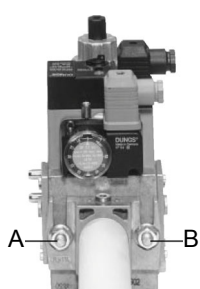
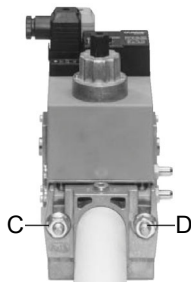
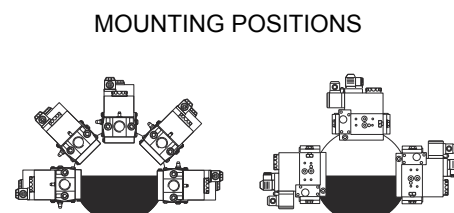

Fig. 3
Fig. 4
Fig. 6
- 3 Tighten screws A, B, C and D (Fig. 3 - Fig. 4) according to the mounting positions (Fig. 6)
1-b) in case of flanged joints: place a gasket (no. 1A..1E - Fig. 4) between the elements;
ATTENTION: once the gas train is mounted according to the diagram on Fig. 4, the gas proving test must be performed, according to the procedure set by the laws in force.